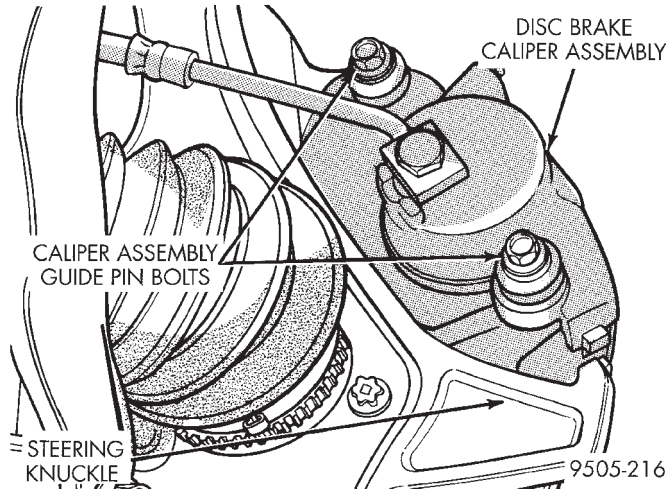

Fig. 4 Caliper Guide Pin Attaching Bolts
(3) Raise vehicle on jack stands or centered on a frame contact type hoist. See Hoisting, in the Lubrication and Maintenance section, for required lifting procedure to be used for this vehicle.
(4) Remove front tire and wheel assembly from the hub.
(5) Remove front disc brake caliper assembly to steering knuckle guide pin attaching bolts (Fig. 4).